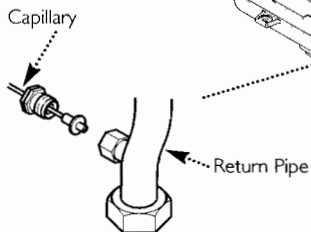

Fig. 58
2. Undo the nut retaining the capillary in the connection at the return pipe (Fig. 58).